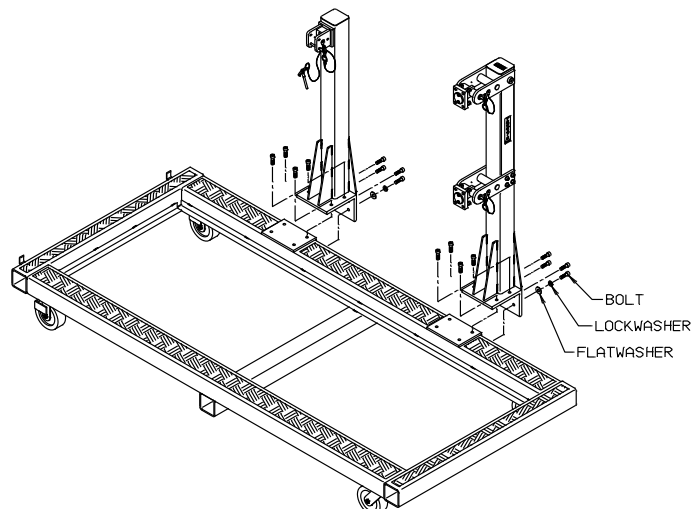

FIGURE 2
3. For each post, use one (1) flatwasher, one (1) lockwasher, and one (1) 1/2-20 Grade 8 bolt at each of the eight locations. Reference Figure 2. Screw all bolts in finger tight, and gradually torque each bolt to 300 inch pounds. The engine stand is now ready to accept a PW305 engine.